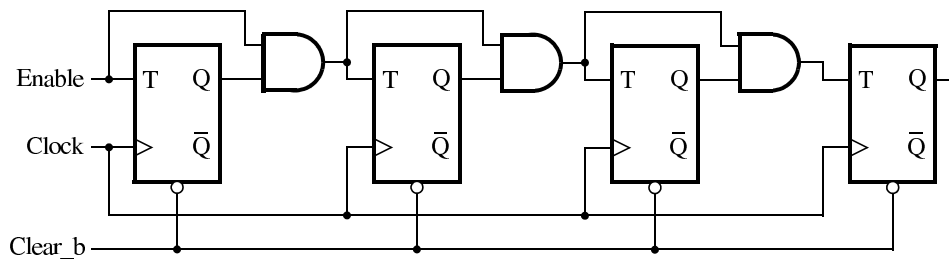

Figure 1: A 4-bit counter.
Consider the circuit in Figure 1. It is a 4-bit synchronous counter (textbook Section 5.9.2) that uses four T-type flip-flops (textbook Section 5.5). The value of the counter is comprised of the Q outputs of the T flip-flops. The least significant bit is on the left in Figure 1. The counter increments its value on each positive edge of the clock if the *Enable* signal is asserted. The counter is reset to 0 by setting the *Clear_b* signal low – it is an active-low asynchronous clear. You are to implement an 8-bit counter of this type.
1. Draw the schematic for an 8-bit counter using the same structure as shown in Figure 1.
7. Use the Quartus RTL Viewer to see how the Quartus software synthesized your Verilog into a circuit. What are the differences between the circuit synthesized by Quartus and Figure 1?